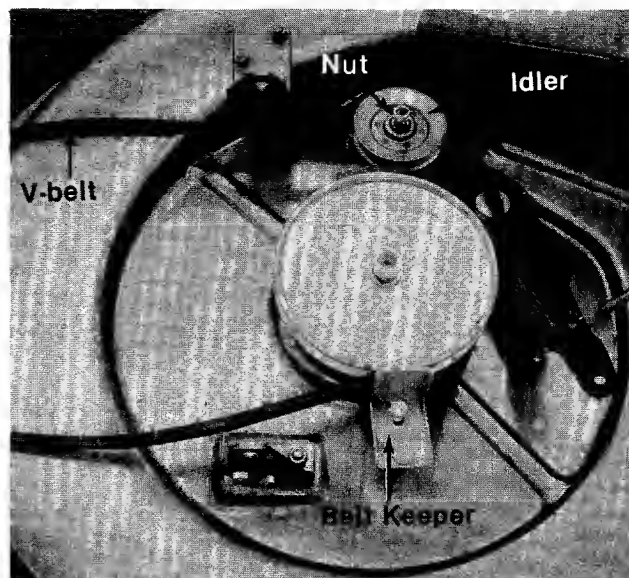

**FIGURE 48.**
2. Remove the two shoulder bolts by the engine pulley. See figure 48.
5. Remove the two shoulder bolts from the engine pulley. See figure 48.
8. Remove the engine belt guard. See figure 48.
9. Remove the nut on the V-idler and slide the idler off the bracket. See figure 48.
10. Remove the two shoulder bolts by the transmission pulley. See figure 48.